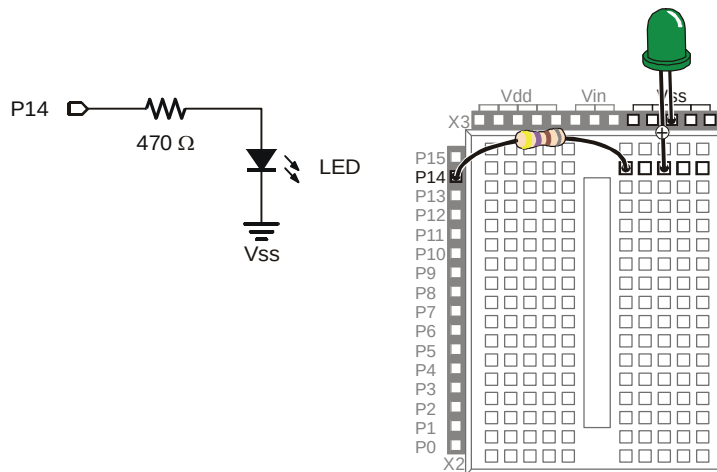

Figure 2-11
The LED circuit shown in Figure 2-11 is wired almost the same as the circuit in the previous exercise. The difference is that the resistor's lead that was manually switched between Vdd and Vss is now connected to a BASIC Stamp I/O pin.
- ✓ Modify the circuit you were working with in Activity #1 so that it matches Figure 2-11.
Use the example circuit shown in Figure 2-11 on page 38.